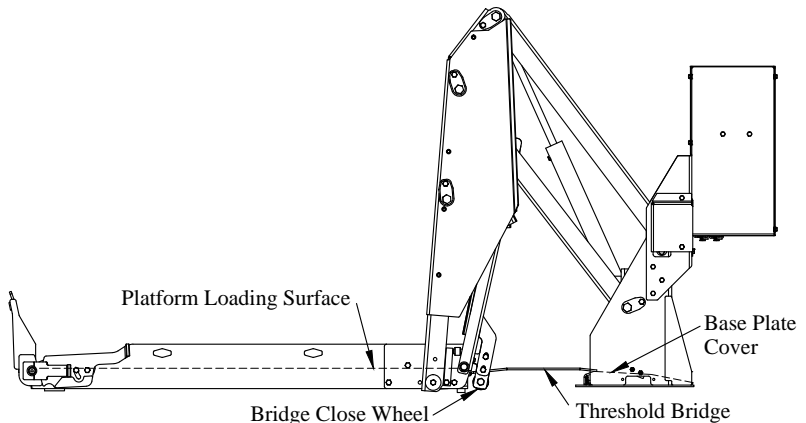

Figure 8: Platform and threshold bridge.
3. **Check** if the platform loading surface is even with base plate cover (Figure 8).
4. **Position** the platform so that it is even with the top of the base plate cover (Figure 8).
1. **Raise** the platform as high as it will go with just the pendant toggle (Figure 8).
3. **Adjust** each bridge close wheel so that it is tight against the bottom of the threshold bridge (Figure 8).